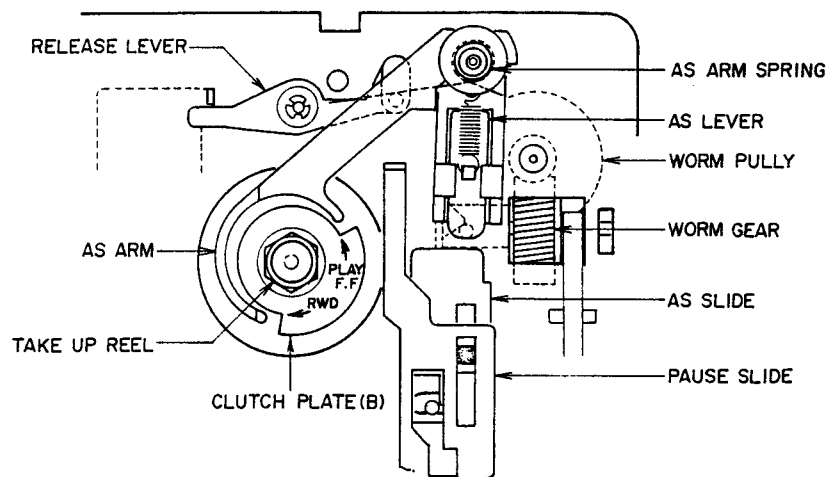

Fig. 6
- a. CLUTCH PLATE (B) (Fig. 6)
- b. AS LEVER (Fig. 6, 8)
- c. RELEASE LEVER (Fig. 6)